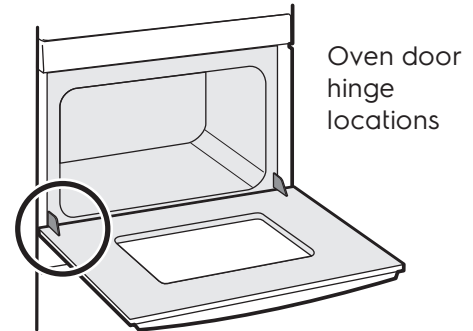

Figure 26: Door Hinge Location
1. Open oven door completely, horizontal with floor (Figure 26).
3. Fully open the oven door, horizontal with floor (Figure 26).